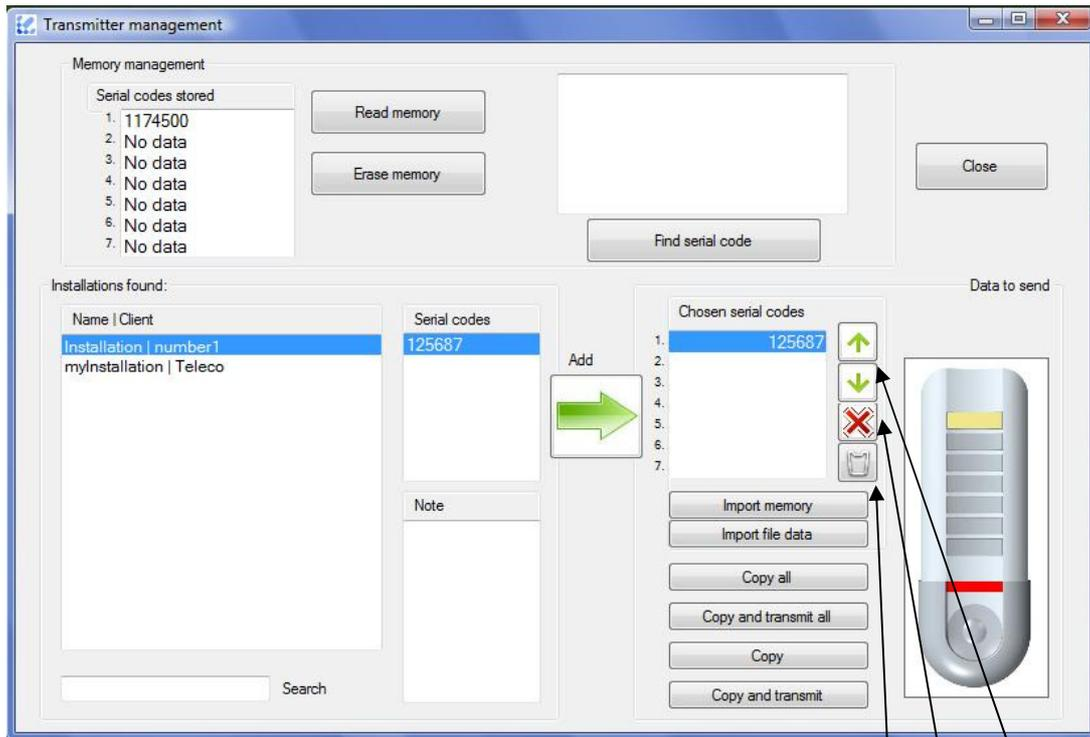

Fig.6 Transmitter management window
The MANAGEMENT window has a box for reading the stored data and a part for preparing data to store. Starting from the installation properties and relative serial codes (fig.6 on the left) it is possible to set the data to send (fig.6 on the right).
- FIND SERIAL CODE: select a serial code in the list (e.g. in fig.6 number 1174500), and it finds the installation in the PC that contains its specific data.